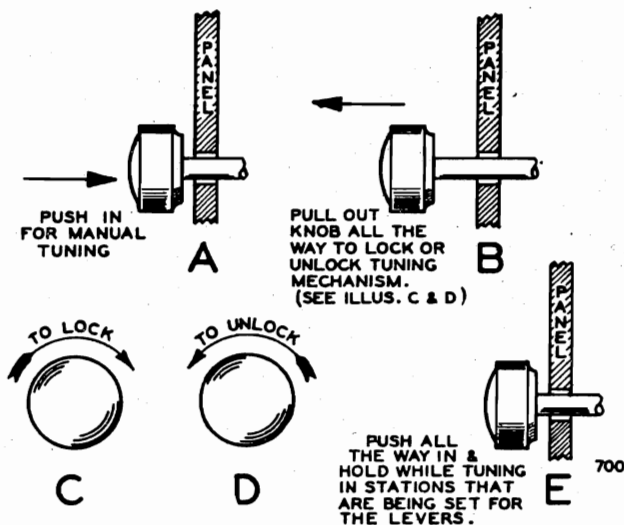

FIG. 3
tune the station, the dial tuning knob will have to be pressed in (See Illus. "E," Fig. 3). Turn the dial tuning knob very slowly back and forth (while still holding the automatic tuner lever in downward position), noting the width of the shadow on the screen of the cathode-ray tuning indicator. Minimum width on the tuning indicator indicates the ideal tuning position (resonance). The station will then be clearest and accurately tuned in.
5. Pull the dial tuning knob all the way out (See Illus. "B," Fig. 3) and rotate the tuning knob to the right (clockwise) until it cannot be turned any further (See Illus. "C," Fig. 3). This will lock the automatic tuner mechanism and the stations you have set up for automatic tuning will be locked in place. After you have locked the tuner mechanism, push the dial tuning knob in.